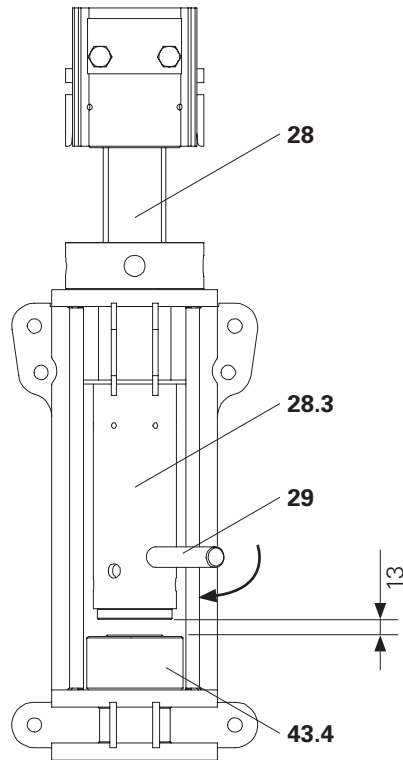

Fig. D2.01
1. Insert the mounting shaft VST (29) into the spindle sleeve (28.3).
2. Lower the spindle sleeve (28.3) with mounting shaft VST (29) until a 13 mm spacing is between the spindle sleeve (28.3) and hydraulic cylinder (43.4). (Fig. D2.01)